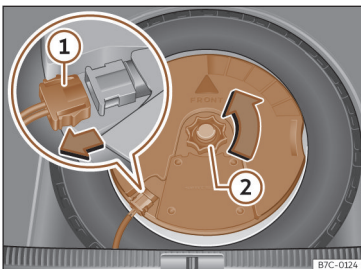

Fig. 240 In the boot: remove the subwoofer.
- Disconnect the subwoofer's speaker cable >>> **Fig. 240** ①.
- Turn the securing wheel anti-clockwise >>> **Fig. 240** ②.